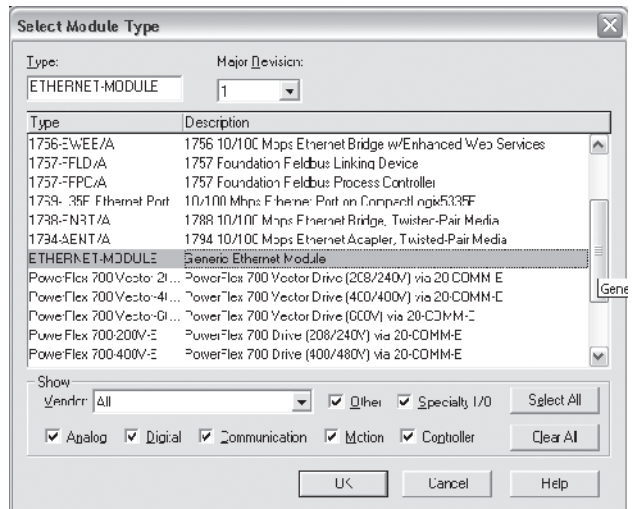

Fig. 2/6: CPX-FB32 – adding as generic module
3. Enter in the window “Module Properties” (Fig. 2/7):